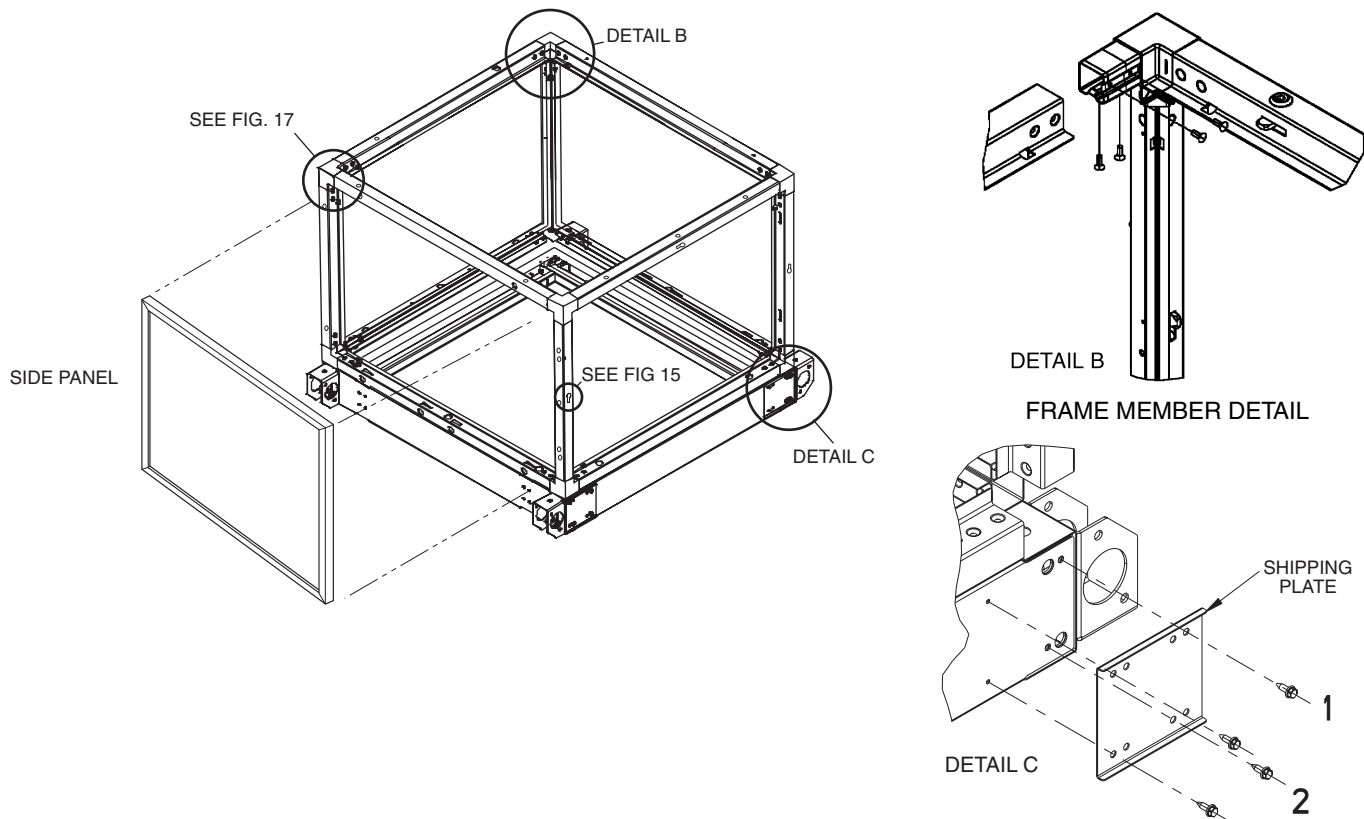

Fig. 16 — Section Frame Assembly
1. Remove shipping plates from entering and leaving face of sections. Replace 2 screws in baserail directly under corner feet only, otherwise 2 inboard screws will not allow a flush connection. See Fig. 16.